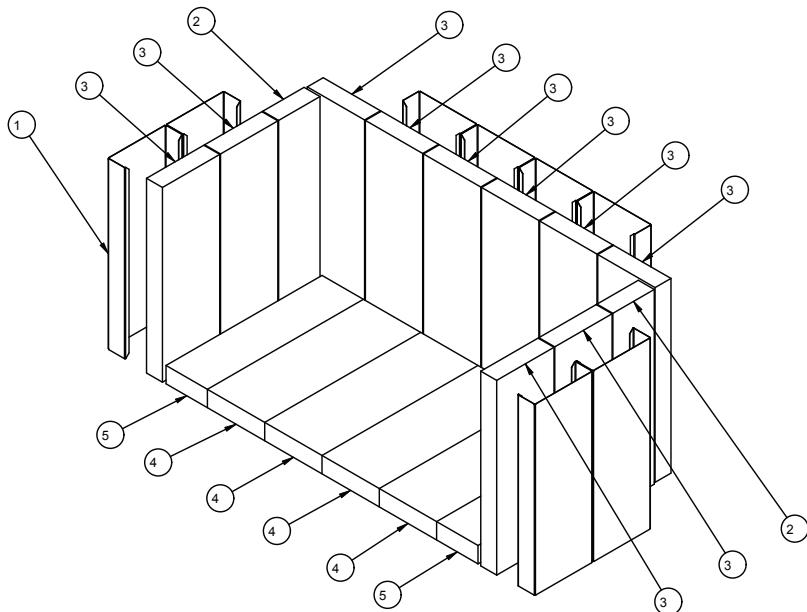

Figure 8.1 Fire Brick Configurations
- Remove new brick set from box and lay out to diagram as shown in Figure 8.1.